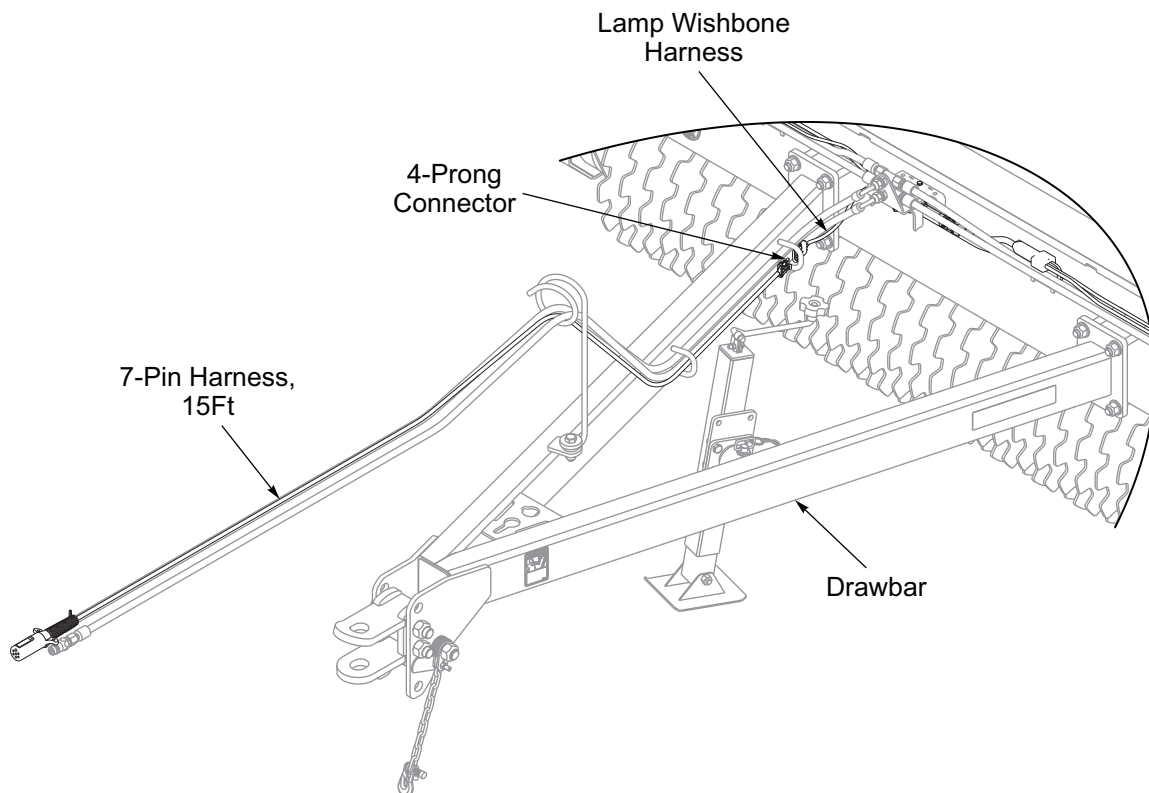

Figure 2-10: Drawbar Warning Lamps Installation
1. Lay out the 7-Pin Harness along the Drawbar with the 4-Prong Connector towards Seeder. Route the 7-Pin Harness 4-Prong Connector through the Hose Support and Drawbar Hose Loops to the Seeder. Connect 7-Pin Harness 4-Prong Connector to the Lamp Wishbone Harness 4-Prong Connector. **See Figure 2-10.**